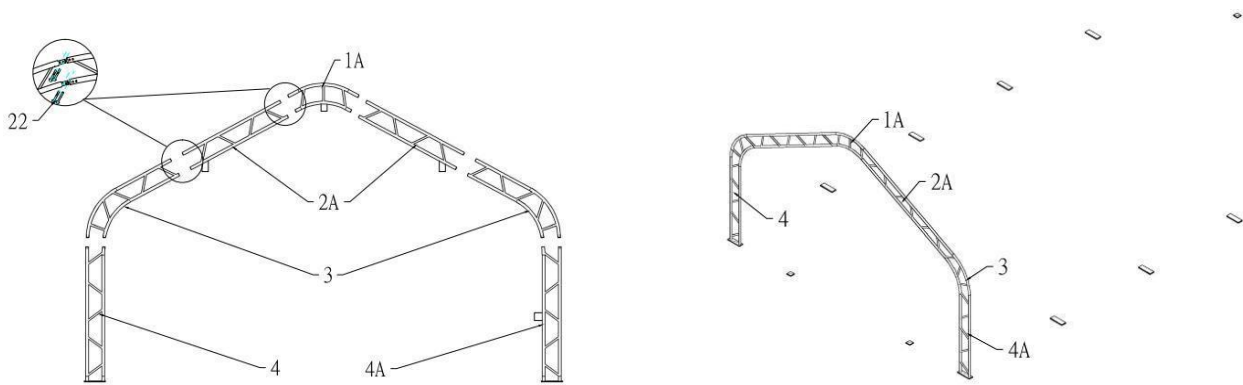
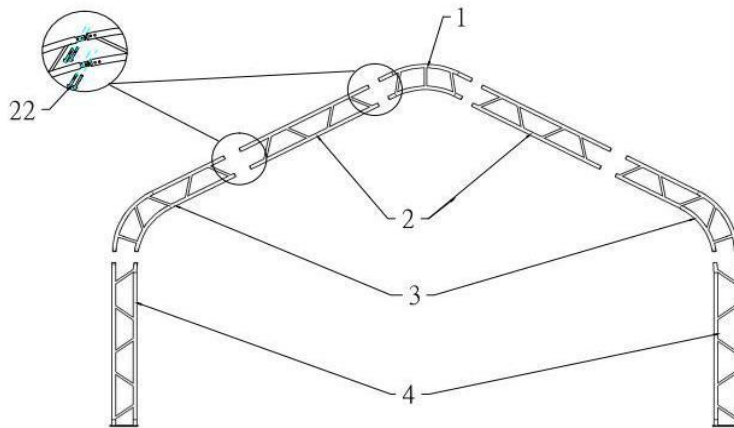
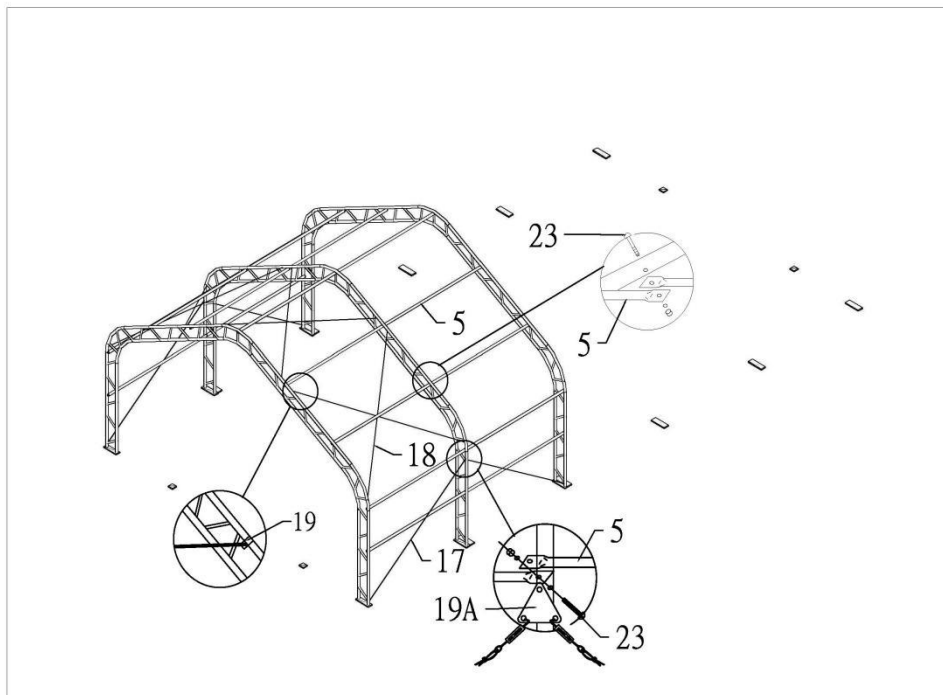

Figure 3
Figure 4
Figure 5
1. Figure 3 shows to connect the Roof bent tube for front and back door (No.1A), Sidewall bent tube for front and back door (No.2A), Shoulder bent tube (No.3), Standing leg (No.4) and Standing leg for front door (No.4A) with Bolt 8x60mm (No.22), then put the arch into tube of the Base flange by hoist (see Figure 4)
2. Figure 4 shows to connect the Roof bent tube(No.1), Sidewall bent tube(No.2), Shoulder bent tube(No.3), and Standing leg(No.4) with Bolt 8x60(No.22), then put the arch into tube of the Base flange by hoist, and assemble every group arch by turns(see Figure 5)
3. Connect Purlin(No.5) to arch by using Bolt 10x70mm (No.23) by turns(see Figure 5), then
connect the Steel wire(NO.17 and NO.18) on top and side by using Clip(No.19) (see Figure 5).